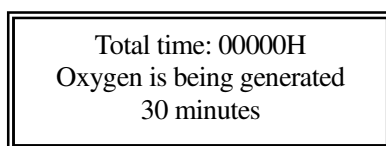

Fig. 6 Display of timed oxygen generation
- 3) **Continuous/timed oxygen generation:** Press the "Oxygen generation/timing button", oxygen generator will be started and enters into "Continuous" oxygen generation working state. The LCD displays the total use time and other contents of oxygen generator, as shown in Fig. 5. After medical oxygen generator is started, press the "Oxygen generation/timing button" again, medical oxygen generator will enter into timed oxygen generation state, and the timing is 30 minutes (see Fig. 6), for each press of "Oxygen generation/timing button", preset time will be increased by 30 minutes (maximum preset time is 120 minutes); users can preset the time for oxygen generation as required. After a timing of 120 minutes, press the "Oxygen generation/timing button" again, oxygen generator without atomization function will stop oxygen generation, while oxygen generator with atomization function will